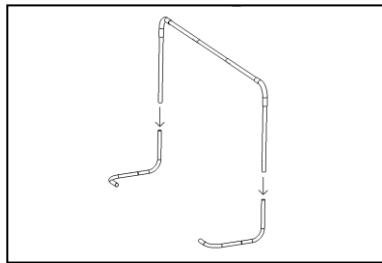

Figure 5
- b. While the SUPPORT TUBES are oriented upward, push the open ends of the L TUBES over the SUPPORT TUBES, as show in Figure 5. Do not use screws yet.